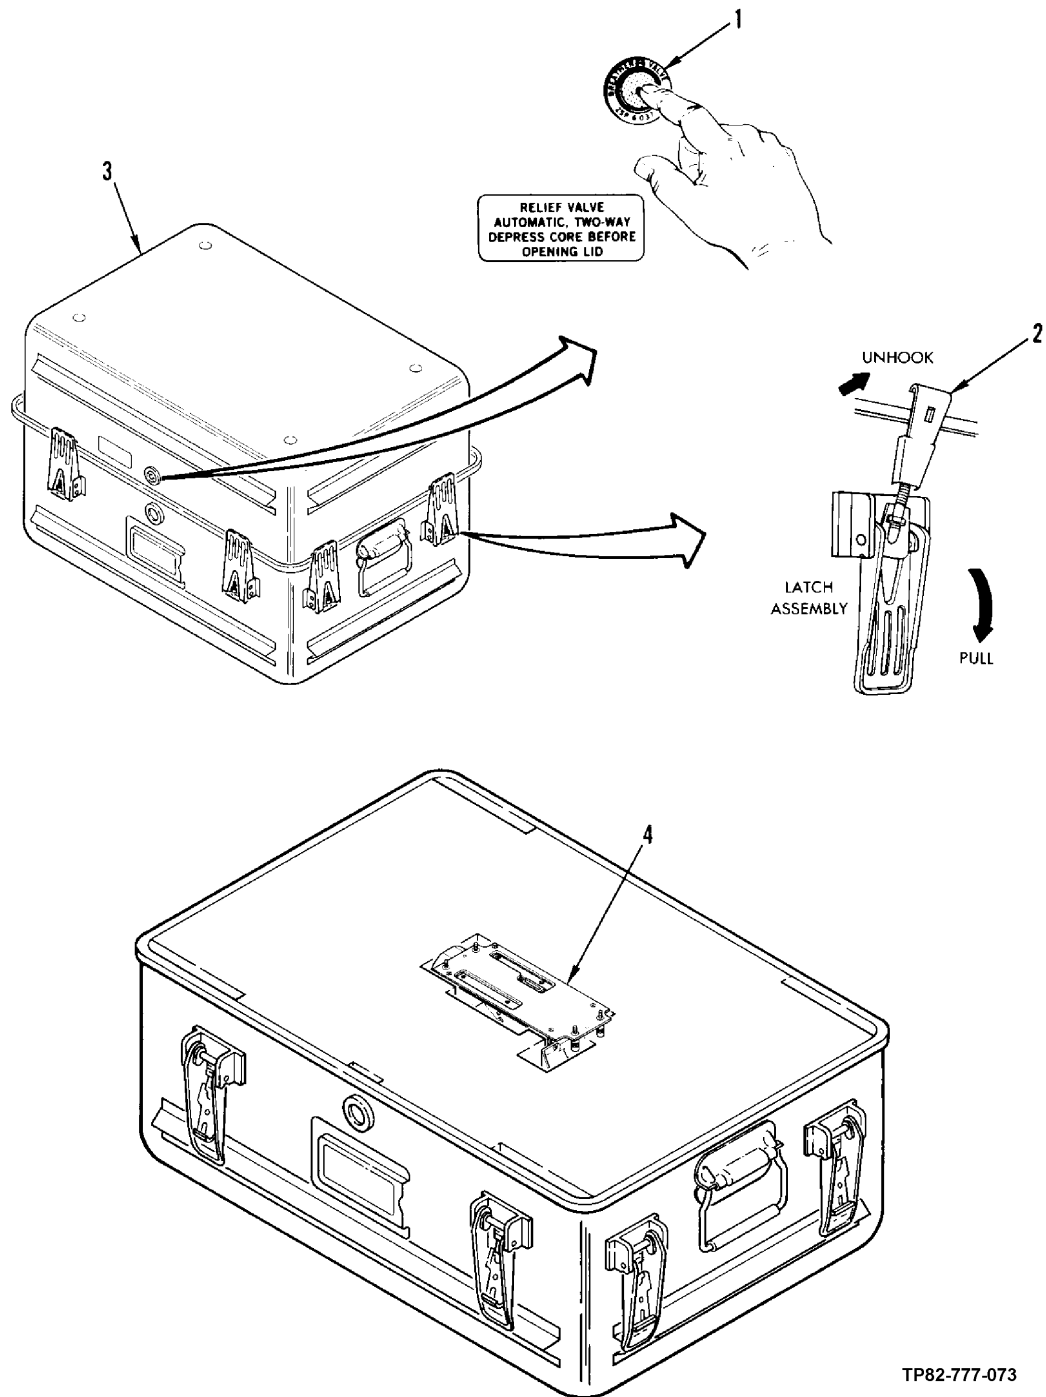

Figure 7-3. Television Sensor Assembly or Solid State Camera Removal from Shipping and Storage Container
- a. Press container pressure relief valve (1, figure 7-3).
- b. Open container latches (2).
- c. Remove container lid (3) and set aside in a clean dry area.
- d. Carefully remove camera assembly (4) from container.
- a. Open container latches (1, figure 7-3).
- b. Remove container lid (2) and set aside in a clean dry area.
- c. Carefully lower camera assembly (3) into container.